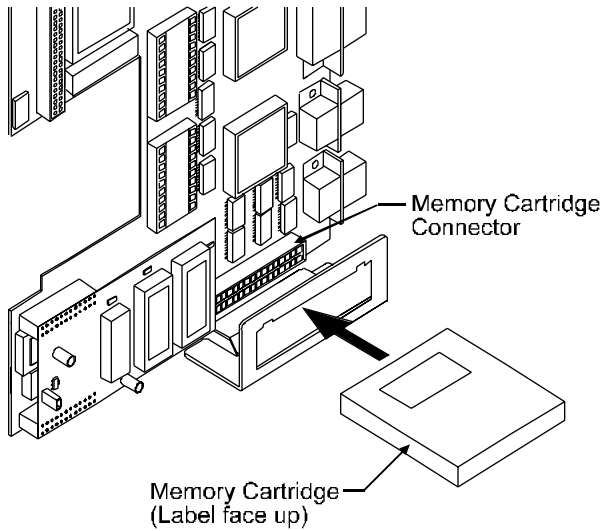

Figure 3-10 Inserting the Memory Cartridge
- 3 Holding the FLASH Cartridge with the label facing up, insert it into the connector, see Figure 3-10. Push firmly, but do not force it, doing so could damage the cartridge and socket.